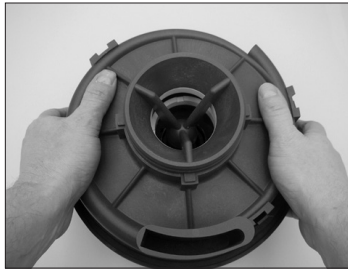

Figure 29
3. Install the inner volute (item 6) by lining up the prongs of the barrier with the channels in the inner volute. Press down evenly until the prongs snap onto the surface of the inner volute. See figure 29.